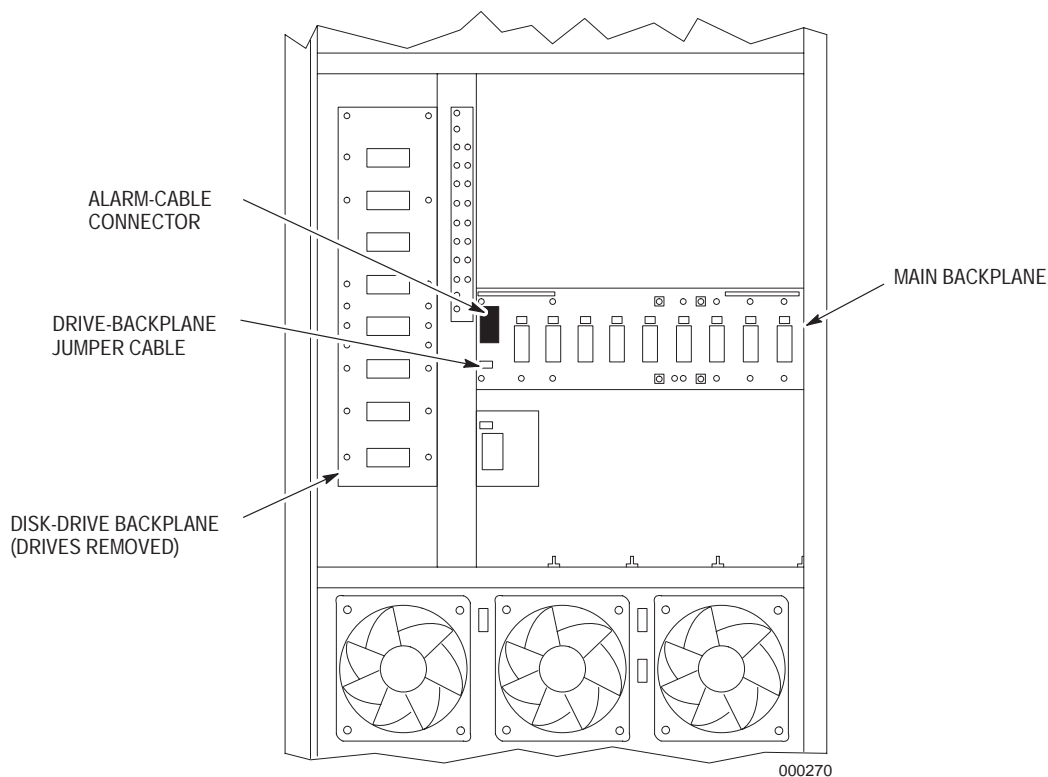

Figure 11-14. Main Backplane (Front View).
16. Remove the alarm cable from the main backplane connector, as shown in Figure 11-14.
17. Disconnect the drive-backplane jumper cable from the main backplane connector (Figure 11-14).
22. Reconnect the drive-backplane jumper cable to the main-backplane connector (Figure 11-14).
23. Reconnect the alarm cable to the main backplane connector (Figure 11-14).